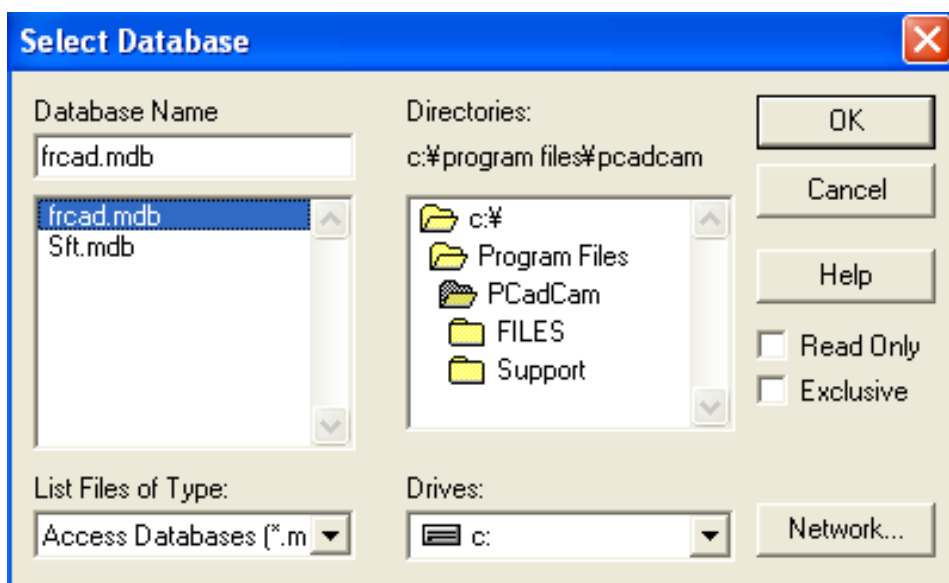

Figure 6-5. Database file selection
- The system will then ask user to select the database file via a dialog box as shown on Figure 6-5. Select database name “frcad.mdb” then click on OK button.